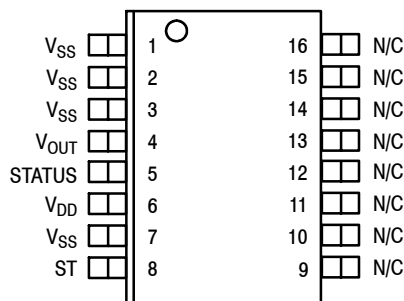

Figure 4. Pinout Description
- Place a ground plane beneath the accelerometer to reduce noise, the ground plane should be attached to all internal VSS terminals shown in Figure 4.